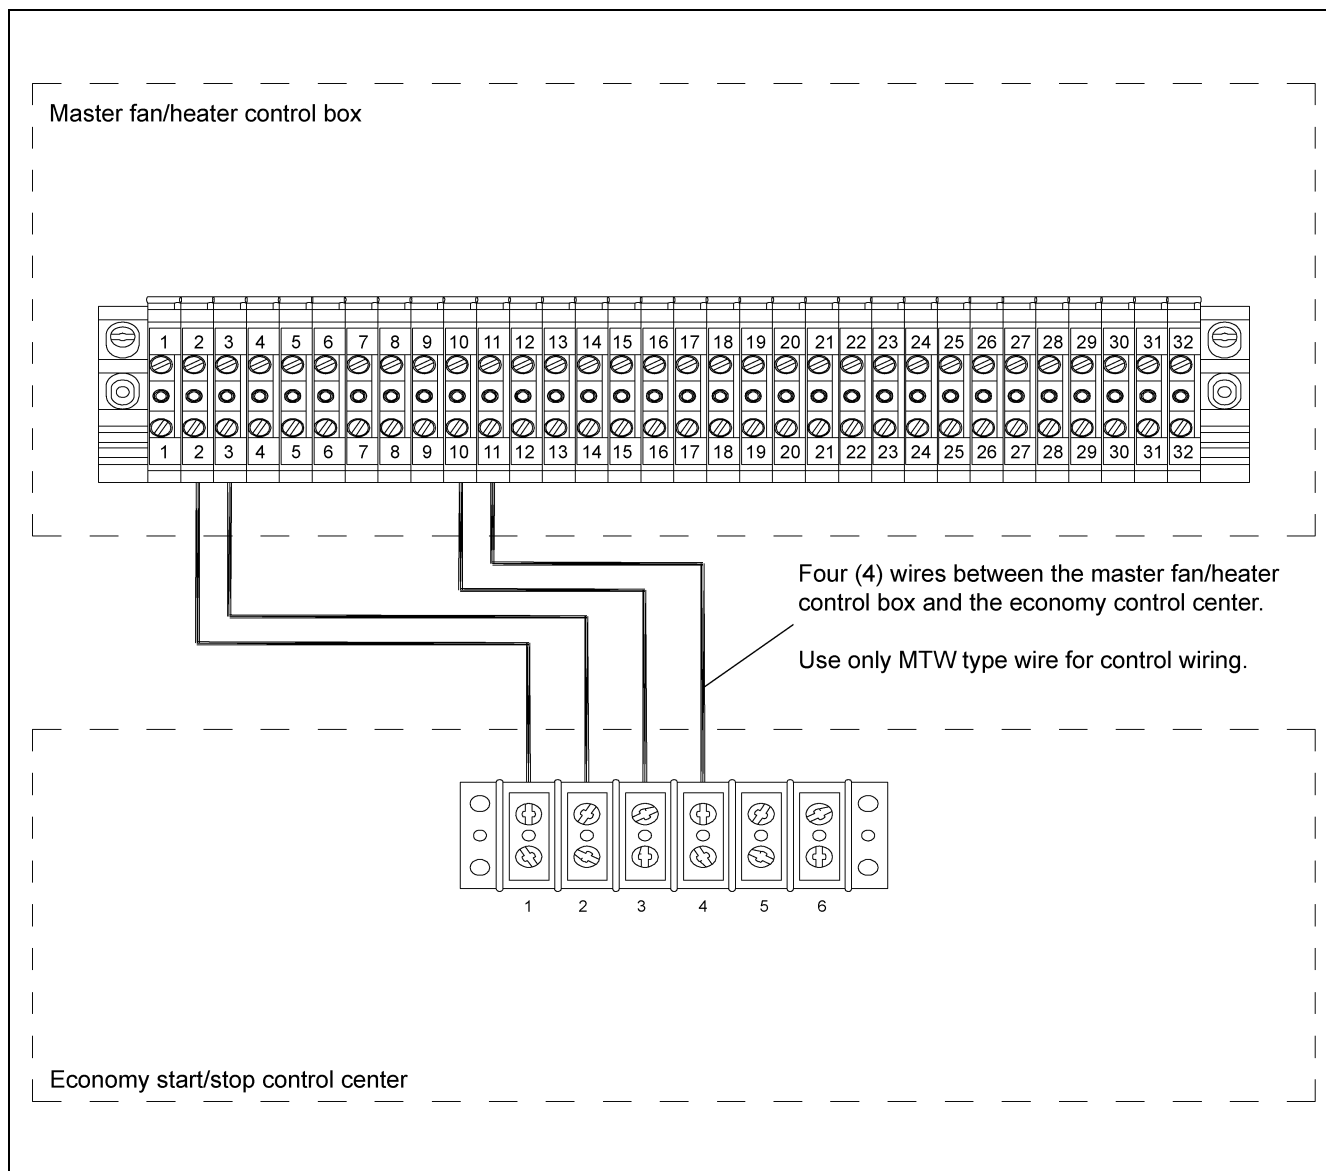

Figure 4E Wiring for the Economy Control Center to the Master Fan/Heater Unit
1. Run four (4) 16 gauge MTW/THHN type wires from the economy control center to the master fan/heater unit.
2. Connect the wires as shown in Figure 4E.